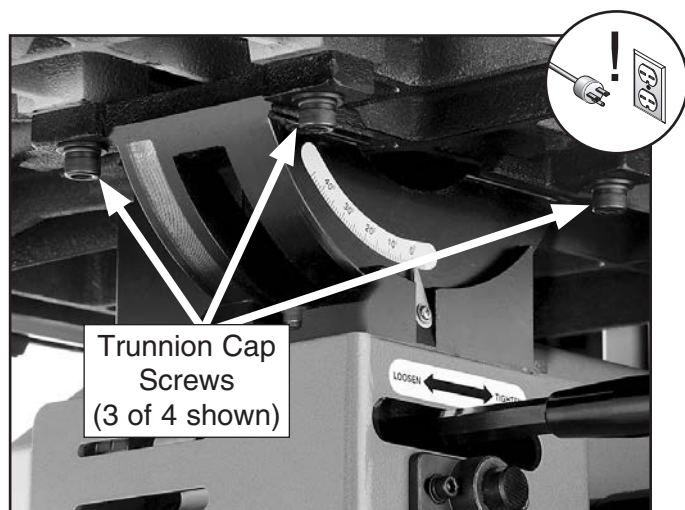

Figure 36. Trunnion cap screws (3 of 4 shown).
- From underneath the table, loosen the four trunnion cap screws that secure the table (see **Figure 36**).